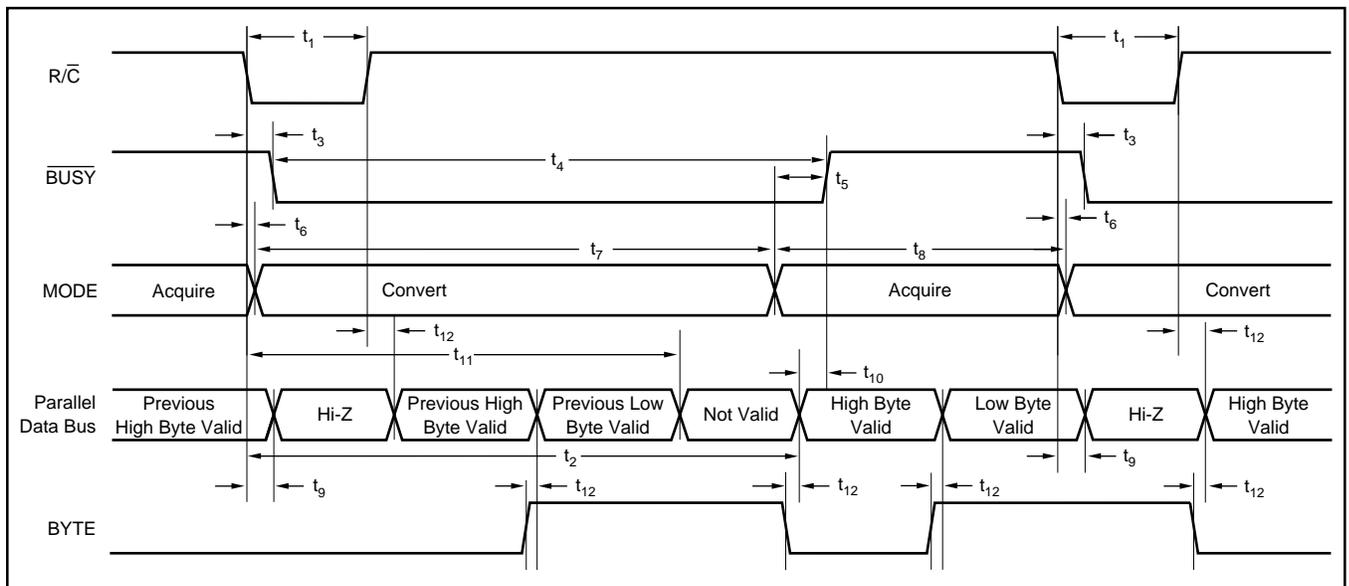

FIGURE 2. Conversion Timing with Parallel Output ($\overline{\text{CS}}$ and DATACLK tied LOW, $\overline{\text{EXT/INT}}$ tied HIGH).
The ADS7806 will begin tracking the input signal at the end of the conversion. Allowing 25 μ s between convert commands assures accurate acquisition of a new signal. Refer to Tables II and III for a summary of \overline{CS} , R/\overline{C} , and $BUSY$ states, and Figures 2 through 6 for timing diagrams.
NOTE: (1) See Figures 2 and 3 for constraints on data valid from conversion 'n - 1'.
After conversion 'n' is completed and the output registers have been updated, $\overline{\text{BUSY}}$ (pin 24) will go HIGH. Valid data from conversion 'n' will be available on D7-D0 (pins 9-13 and 15-17). $\overline{\text{BUSY}}$ going high can be used to latch the data. Refer to Table V and Figures 2 and 3 for timing constraints.
After conversion 'n' has been initiated, valid data from conversion 'n - 1' can be read and will be valid up to $12\mu\text{s}$ after the start of conversion 'n'. Do not attempt to read data beyond $12\mu\text{s}$ after the start of conversion 'n' until $\overline{\text{BUSY}}$ (pin 24) goes HIGH; this may result in reading invalid data. Refer to Table V and Figures 2 and 3 for timing constraints.